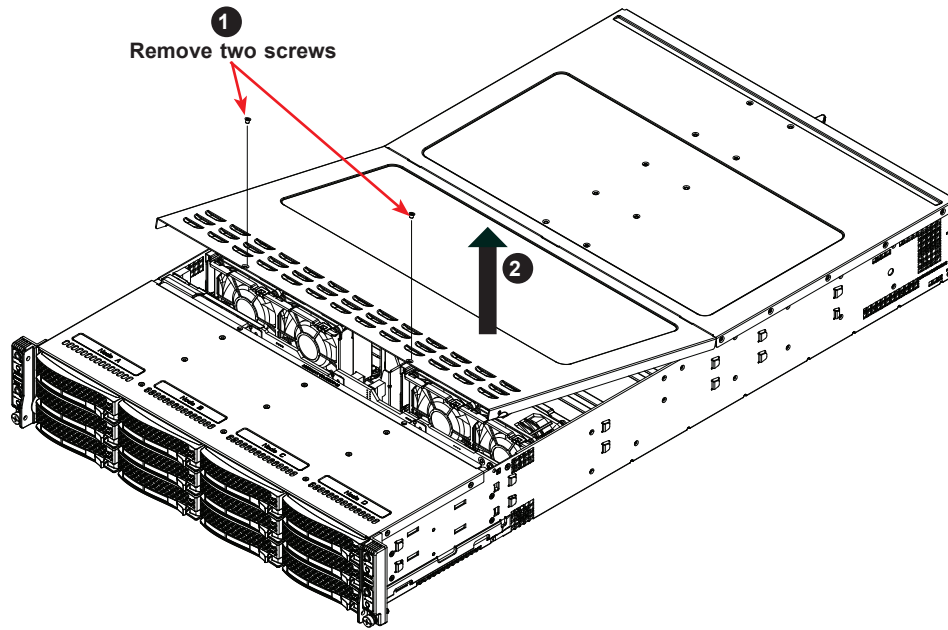

Figure 3-1. Removing the Chassis Cover
1. Remove the two screws which secure the top cover onto the chassis as shown in Figure 3-1.